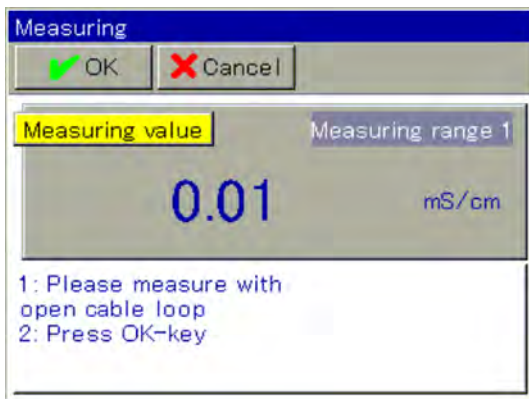

Fig. 77: Measurement
7. ▶ The device now performs a measurement with an open conductor loop at the calibration adapter. Wait for a stable display of the measured value, and then click "OK". (See Fig. 77 .)